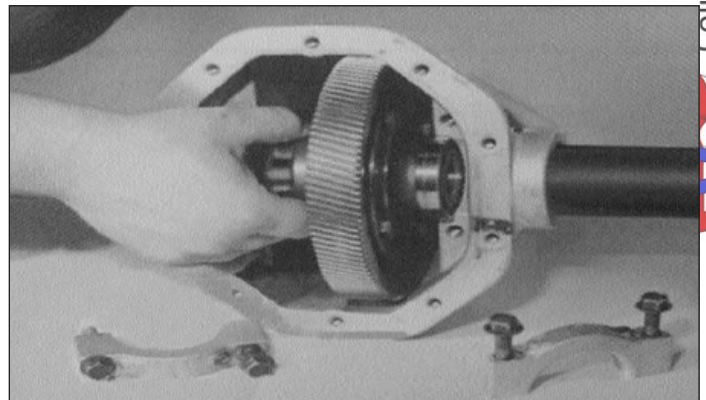

Figure 6-52. Installing Differential Assembly
9. Position differential case assembly (4) with flanged side trunnion face down on work surface. Align output gear (5) mounting holes with differential case. Install four bolts (6) and nuts (7). Bolts should be installed from differential flange side. Torque nuts to 35-45 ft. lbs. (47-61 Nm).
10. Differential bearings (8) can be installed on differential case (4) before or after installing ring gear. Use care not to damage differential bearings or final gear (5) when installing the opposite component.
11. Position housing (1) with opening facing up. Insert differential case, output gear (5) and bearing (8) assembly into housing. Make sure teeth of gear (5) mesh with teeth of small gear on intermediate shaft (9) and that both turn freely (Figure 6-52).